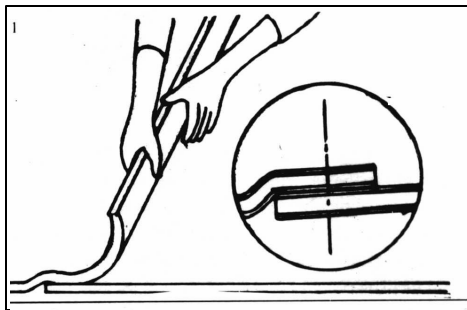

Figure 11.1
- The second roll shall be laid in position, overlapping the 1st sheet by about 5 to 10 mm (see Fig.11.1) while spreading the roll, ensure the cuts on the PVC flooring match with pillars of partition and seat frames.